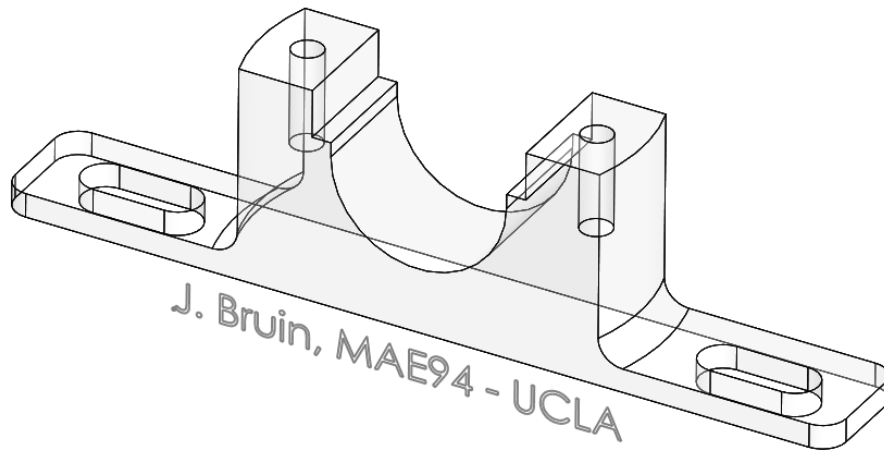

Figure 1: Screenshot of the Plummer_Block (mass = ...; ABS).
- 2.) Complete the Practice Exercise "Plummer_Block." Change the material to ABS (assume the part is 3D printed) and determine and make a note of the mass of the block. Next, add your name as a sketch (use the *Front Plane* → *Sketch* → "A") and place it near the model. Submit a screenshot similar to Fig. 1. Add the mass of the part in grams to the figure caption [30 pts].